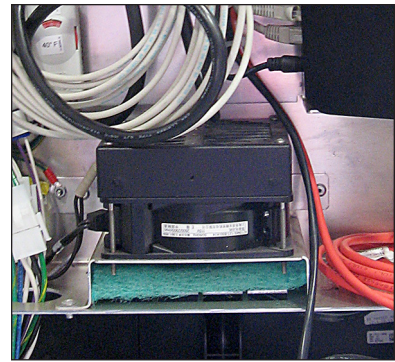

Figure 35: ISP Enclosure Filter
2. Remove the existing filter. Refer to **Figure 35**.